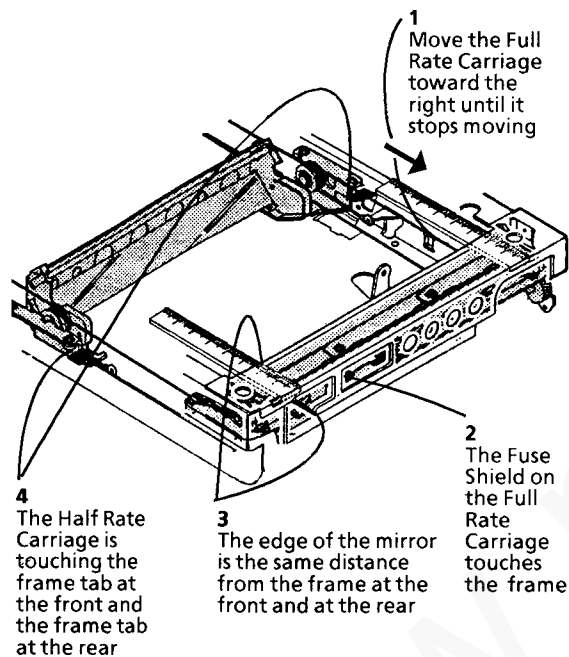

Figure 1. Checking the Full Rate and Half Rate Carriage parallelism
3. Check the Full Rate and Half Rate Carriage parallelism (Figure 1).